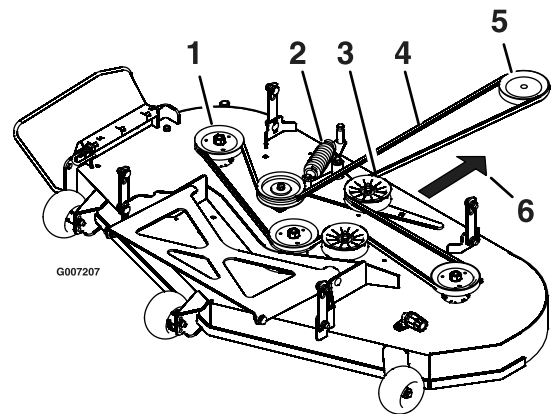

Figure 38
5. Pull the idler pulley in the direction shown in Figure 38 and roll the belt off of the pulleys.
7. Pull the idler pulley in the direction shown in Figure 38 and route the belt onto the idler pulley.